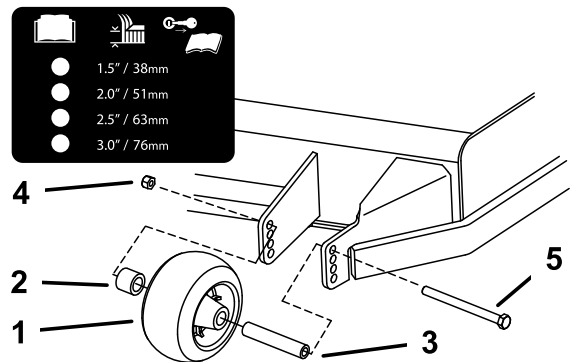

Figure 28
3. Adjust the anti-scalp rollers as shown in Figure 28.